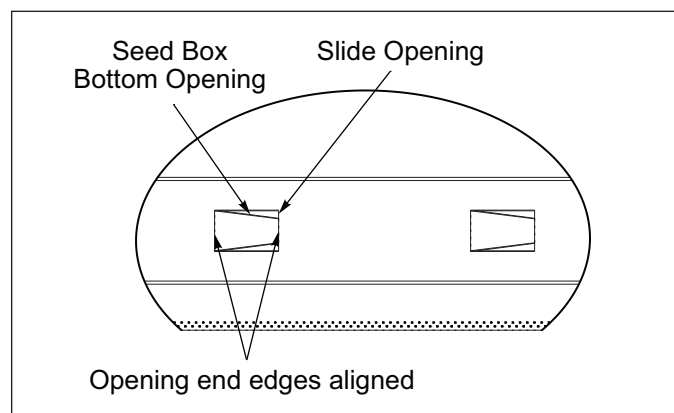

Figure 4-10: Shifter Handle Set at "6"
- When the Shifter Handle is set to "6" (open), the Agitator Box bottom opening end edges are aligned with the Slide opening end edges. Agitator Box bottom opening is completely visible. **See Figure 4-10.**